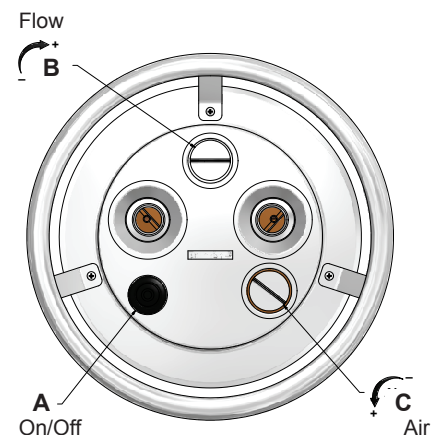

Figure 1.
8. Make sure that the pump's direction of rotations is consistent with that of the system. Open the valves. Completely fill the pump with water before starting it with the push-button (A fig. 1) on the stainless steel front.
9. The flow can be controlled with the knob (B fig. 1) above the outlet nozzles. Air can be added to the water streams using the knob (C fig. 1) below the outlet nozzles.
The Jet Swim pump is started and stopped by air impulse via the pushbutton (A) on the stainless steel front; see figure 1.
The flow of water can be controlled using the knob (B) above the outlet nozzle; see figure 1.
Air can be added to the water streams using the knob (C) below the outlet nozzles; see figure 1.